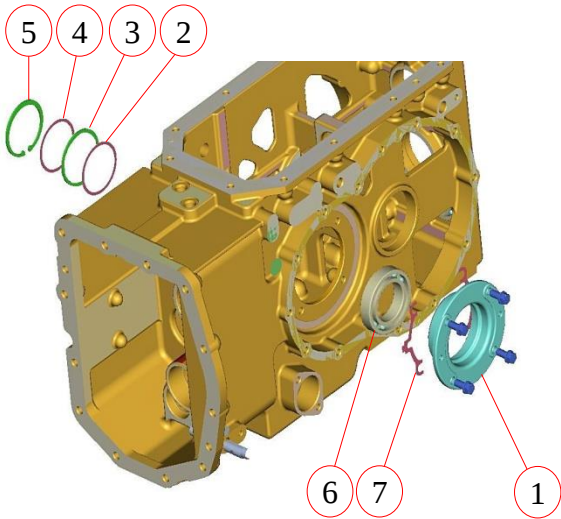

Fig.5-35
h. Backlash adjustment between the drive pinion and the ring pair(Fig5-35)